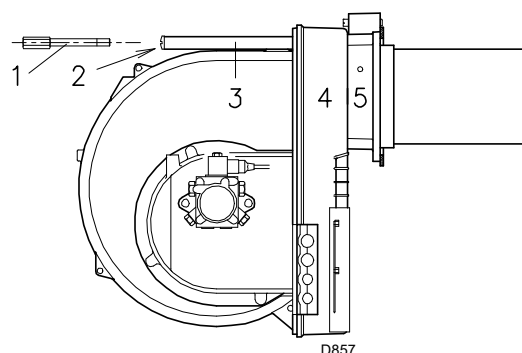

Fig. 15
- Finally remount the burner 4)(Fig. 15) on the slide bars 3) and slide it up to the flange 5), keeping it slightly raised to prevent the flame stability disk from pressing against the blast tube.
- Remove the nuts 1)(Fig. 15) and the disc 2).